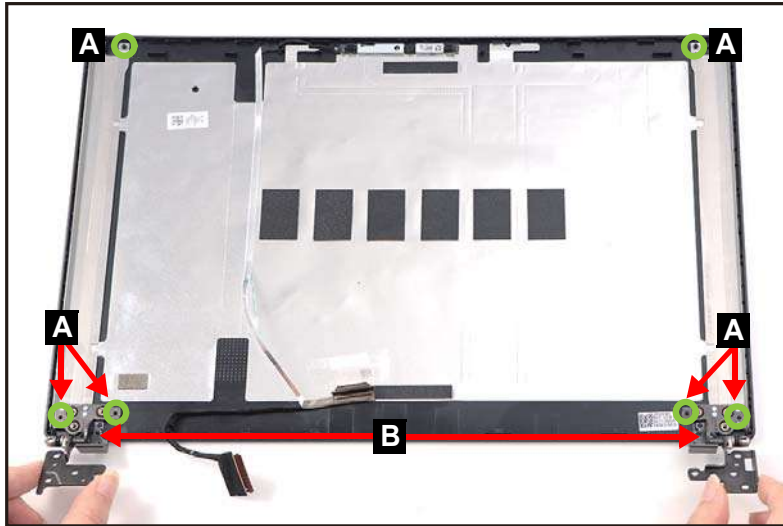

Figure 3-70. Replacing the LCD Hinges
1. By aligning with the guide pins (A), place the LCD hinges (B) on the LCD cover (Figure 3-70).